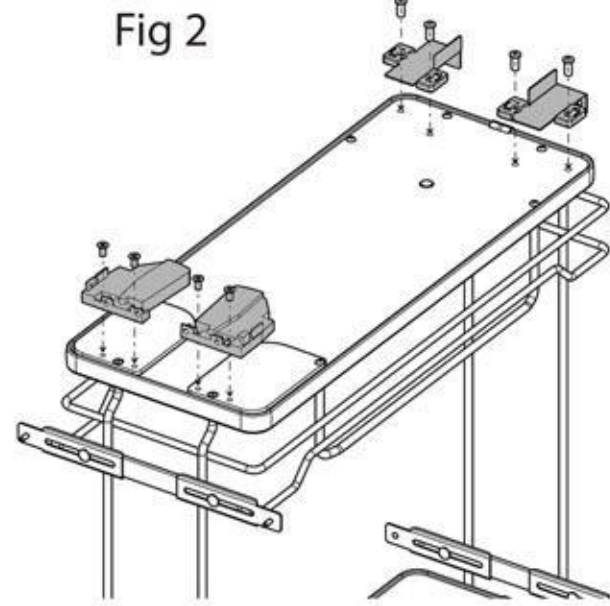
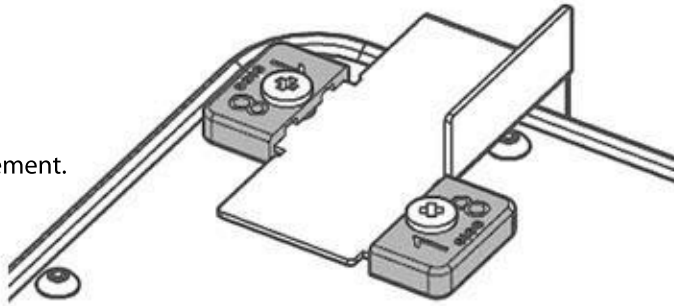

Fig 3
Fig 3a
- 4) Assemble the release levers and the rear slide catch (See Fig 3). (Note: Be sure that the rear slide catch is assembly in the right position, when it is installed you have to see the plastic part with number 18(See Fig 3a))